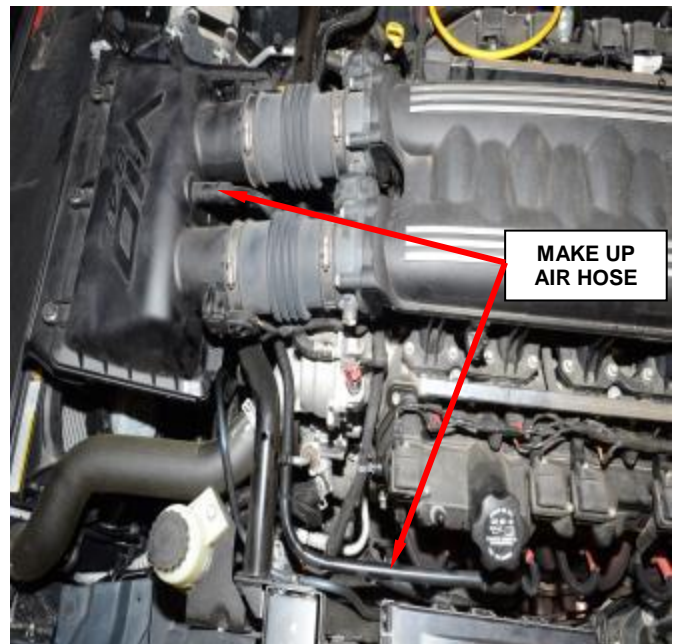

Figure 4 – Make Up Air Hose
6. Remove and **discard** the Make Up Air hose (MUA) (Figure 4).